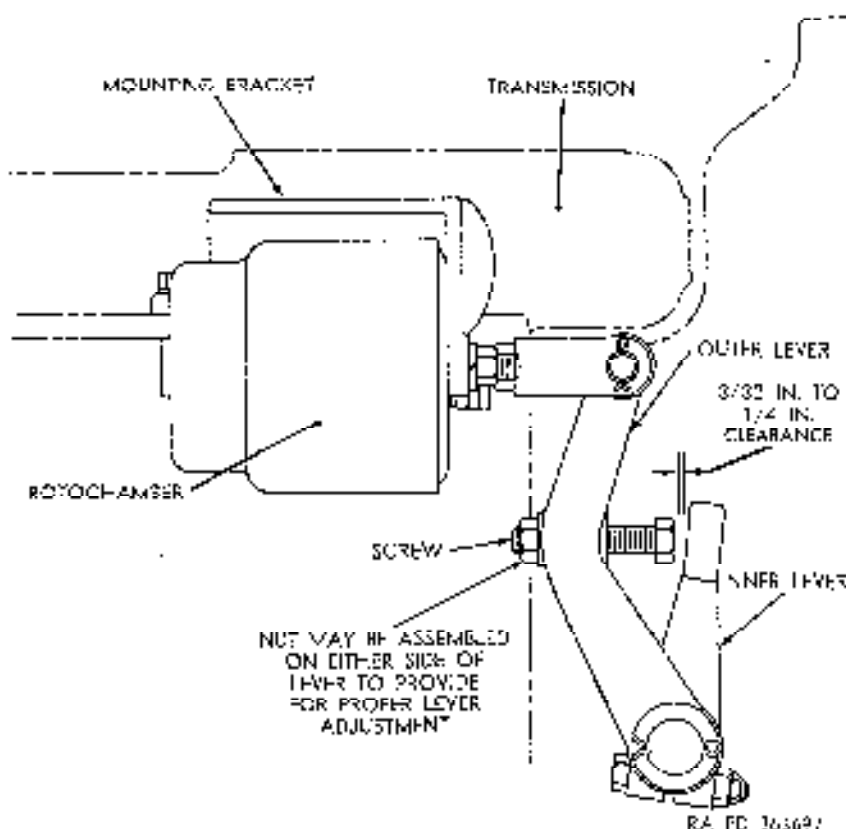

Figure 294. Roto chamber adjustment diagram.
- (1) Check clutch pedal free travel (para. 202) and adjust, if necessary.
- (2) Loosen lock nut on adjusting screw installed in clutch release outer lever.
- (3) Turn adjusting screw until clearance between adjusting screw head and upper end of inner lever is between three thirty-second and one-fourth inch. Figure 294 illustrates point of measurement between adjusting screw head and inner lever.
- (4) Fold adjusting screw to prevent it from turning, and tighten locknut.